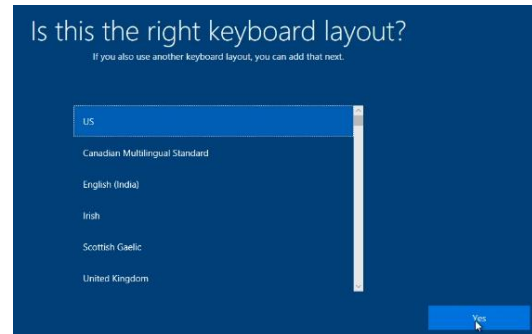

FIGURE 86: TESTOUT CORP. (2020, JANUARY 14). TESTOUT PC PRO (SECTION 10.3.4). RETRIEVED FROM [HTTP://WWW.TESTOUT.COM](http://www.testout.com)
11.3.8. (See Fig. 86) On the next screen, you will be asked to reconfirm your keyboard layout. Ensure that it is the keyboard layout you would like, then click the Yes button.